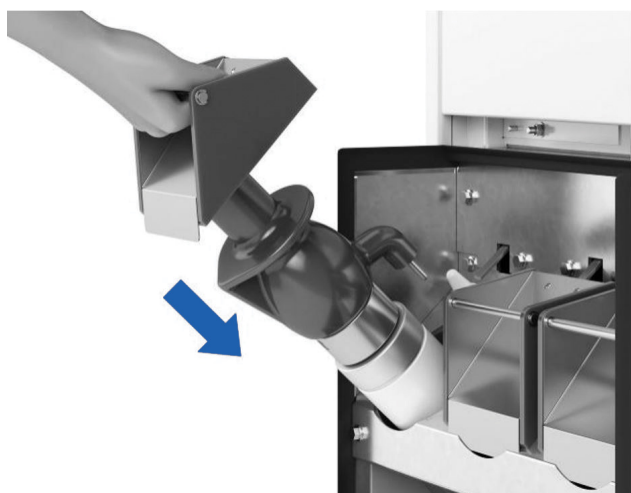

Figure 4-25: Insert fuse
9. Slide the handle with the fuse into the installation. See figure 4-25. Repeat step 6 to 9 for the other phases.